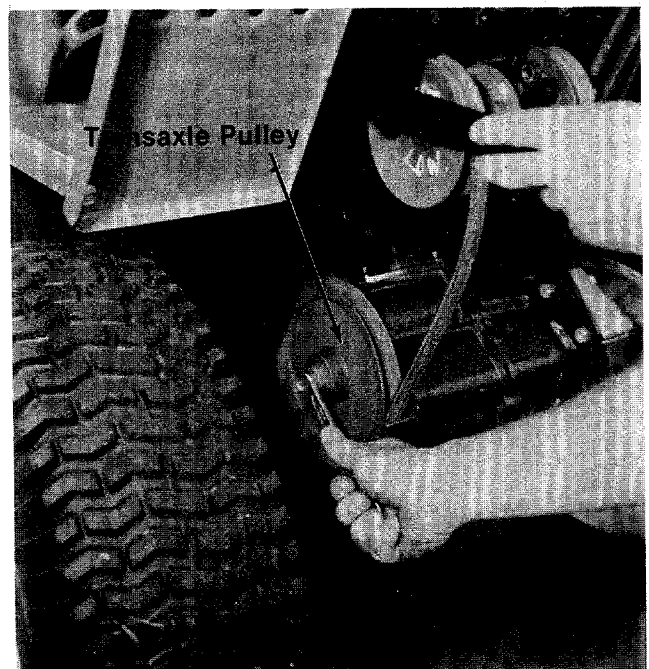

FIGURE 20.
6. Remove the center bolt and slide the trans-axle pulley off. See figure 20.